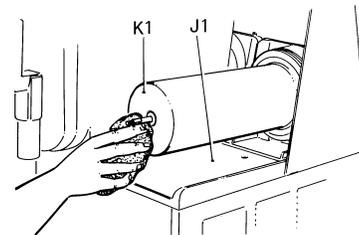

FIGURE 25
31. Clean the drip tray (J1) and the evaporator (K1) (FIGURE 25).